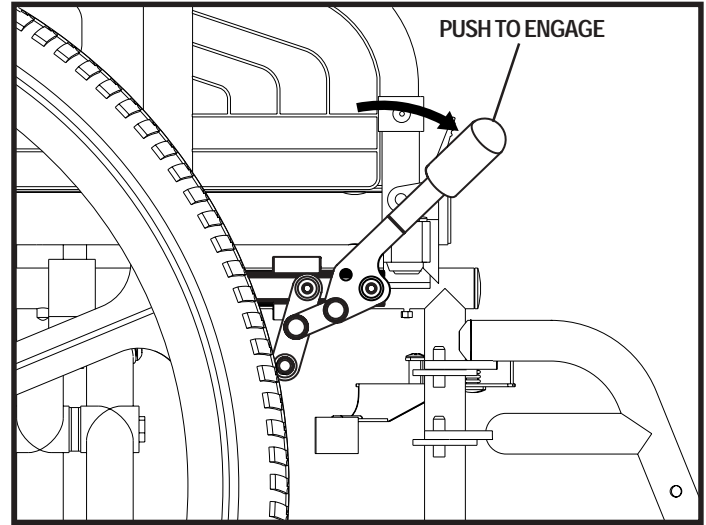

Figure 6. Right Manual Push-to-Lock Park Brake Engaged
1. Engage both manual park brakes. See figure 6 or 7.